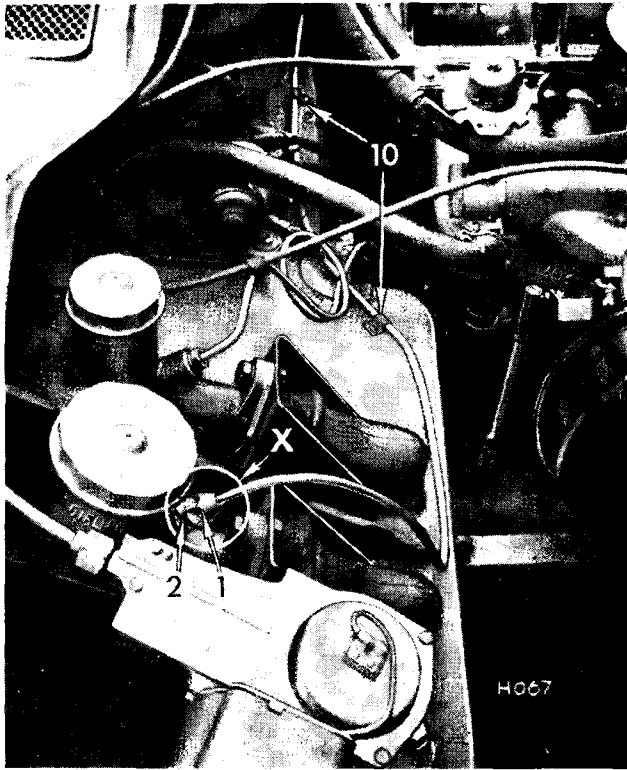
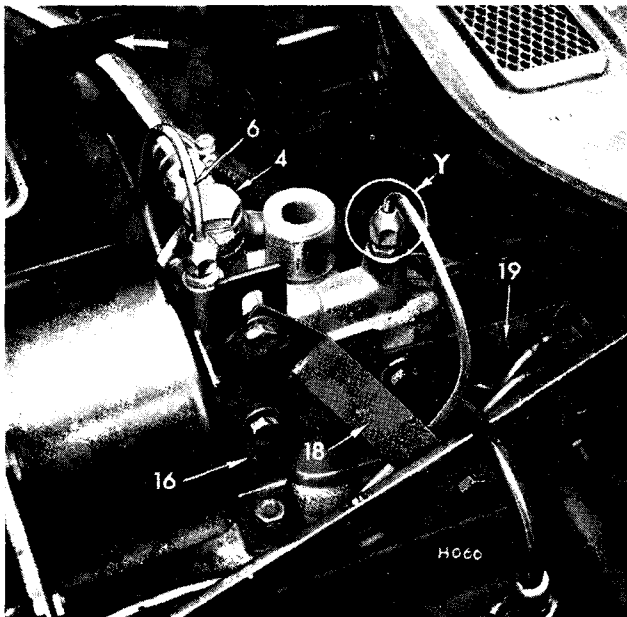

Fig. 31. Master cylinder pipe-run
Fig. 32. Servo unit installed
Unscrew the master cylinder cap. Place a small piece of polythene sheet over the reservoir and replace the cap. This will prevent excessive loss of fluid when hydraulic pipes are disconnected. Disconnect and remove the hydraulic pipe connecting the master cylinder and the fourway union. Screw the adaptor (2) and copper washer (3) supplied in the kit into the master cylinder outlet port (Fig. 31).
Carefully straighten both hydraulic pipes, supplied in the kit. Commencing at 'X' (Fig. 31) route the pipe (9) with the two female unions (1) by bending, cutting to length and flaring. Commencing at (Y) (Fig. 32) route the pipe (12) with one male and one female union (21 and 1) by bending, cutting to length and flaring.
Utilising existing clips (10), secure the pipe (9) to the bulkhead. Drill a $\frac{1}{8}$ " (3.2 mm.) dia. hole through the overhanging flange on the bulkhead shelf (Fig. 32), and secure the pipe from the servo unit to the four-way union using a clip (11) supplied in the kit.
Assemble the banjo non-return valve (4, 5 and 6) to the servo unit. Connect the vacuum hose (8) to the non-return valve and the inlet manifold adaptor. Secure with hose clips (7). Tape the vacuum pipe to the heater hose pipe to prevent chafing (Fig. 32).